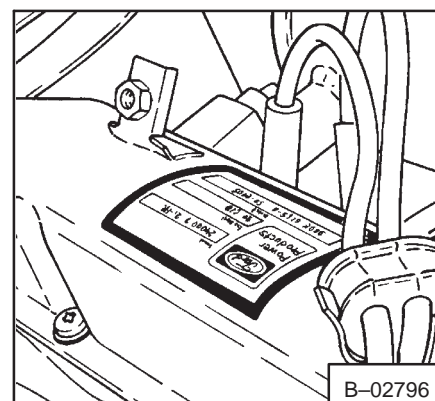

Fig. 1-4 Engine Serial Number (732)
**732 Ford:** (Fig. 1-4) The engine serial number location is on the right side of the valve cover. Use all numbers when ordering parts for this engine.